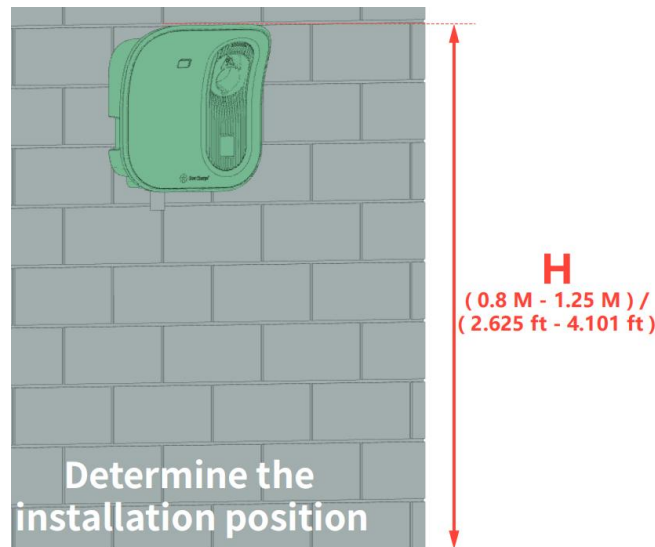

Fig. 4-3 Wall mounting height
1. Please confirm and mark the installation position of the charger. The central position of the charger should be at a suitable position from the ground, as shown in Fig. 4-3.